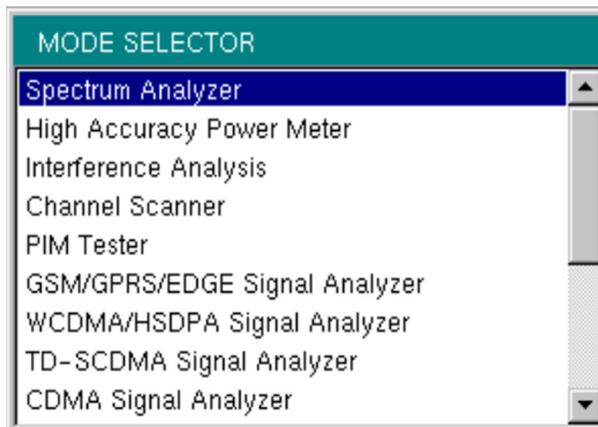

Figure 2-4. Mode Selector Menu
To access the functions under the Mode menu, press the **Shift** key, then the **Mode** (9) key. Use the directional arrow keys or the rotary knob to highlight the selection, and press the **Enter** key to select. The list of modes that appears in this menu will vary depending upon the options that are installed and activated in your instrument. Figure 2-4 is an example of the Mode menu. Your instrument may not show the same list.